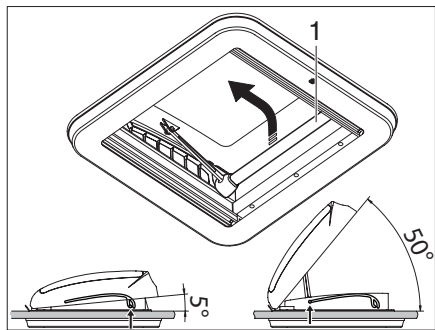

Fig. 60 Open the dome
- Push the push rod (Fig. 60,1) up to unlock to release the locking mechanism.